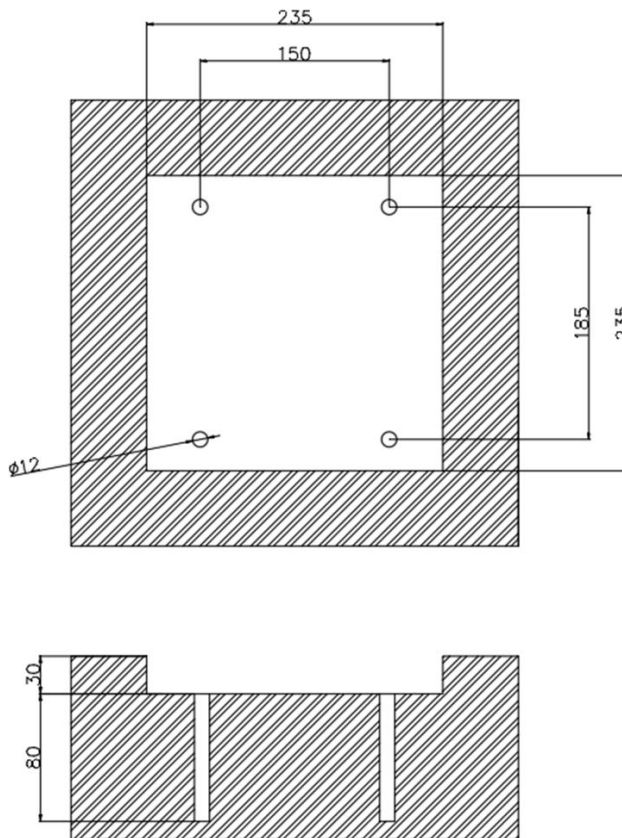

Fig 12-1 – Ground slotting of the Transmitter coil
- 1、Make grooves and holes on the ground according to the dimensions shown in Figure 12-1;